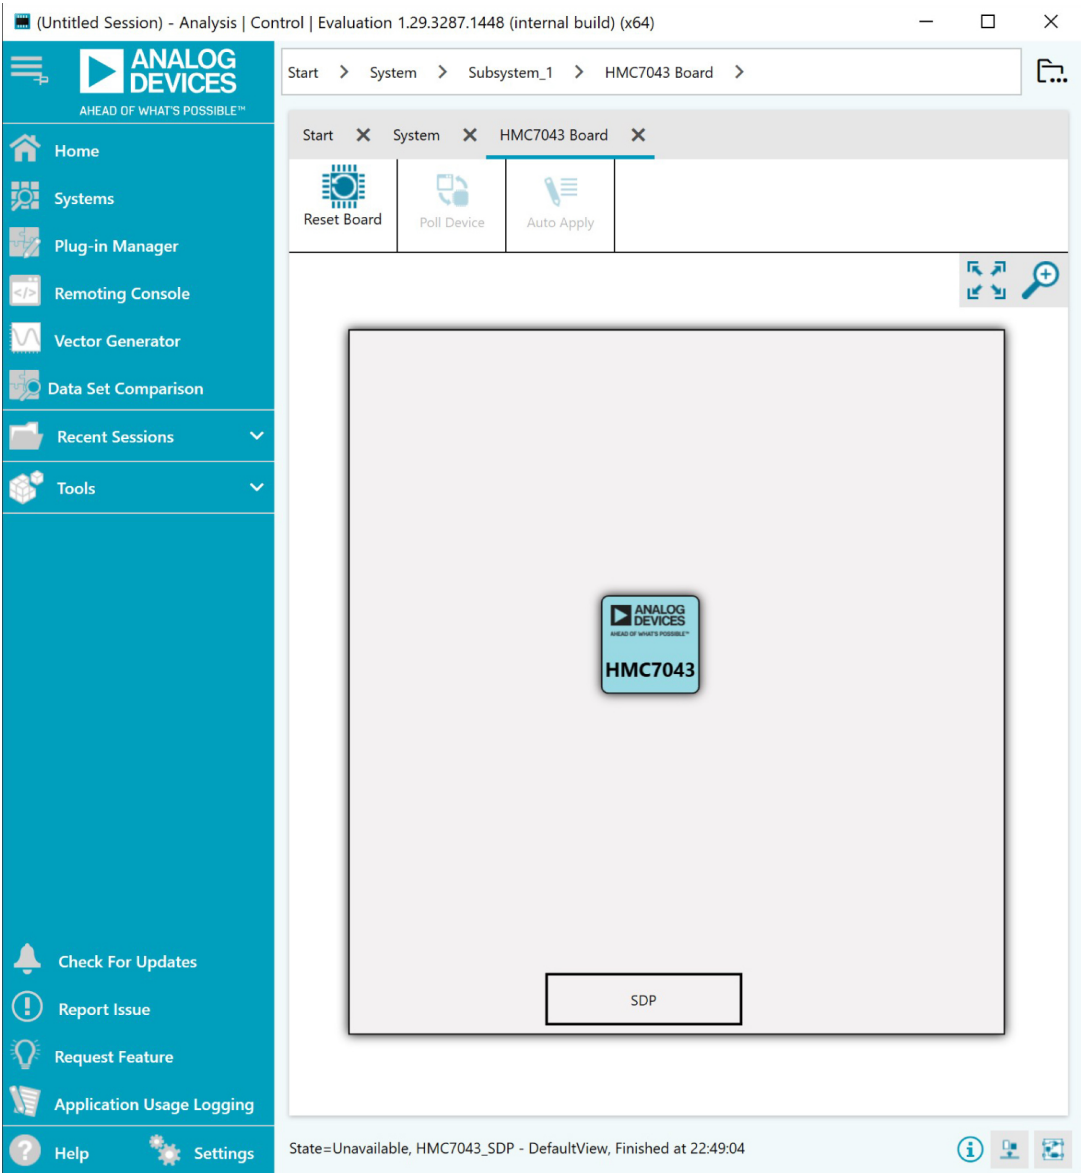

Figure 4. ACE Board Page, Device Selection
- 2. Double-click the **HMC7043 Board** icon and the tab shown in Figure 4 appears.